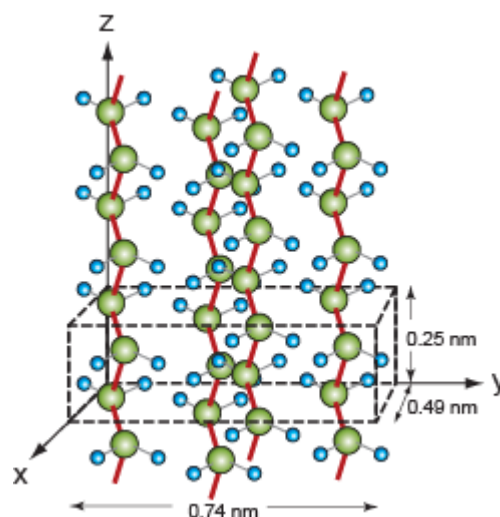

Figure C41. The structure of crystalline polyethylene.
Many polymers crystallize to some extent. The long chains line up and pack to give an ordered, repeating structure, just like any other crystal. The low symmetry of the individual molecules means that the lattice is usually *triclinic*, which just means that the three unit vectors \underline{a} , \underline{b} , and \underline{c} are of different lengths and do not meet at 90. Figure C41 shows a typical example; it is polyethylene. The unit cell is sketched.
- E41.** Polymer crystals are very stiff and strong in the direction of molecular alignment. What are the indices of this direction in Figure C41?